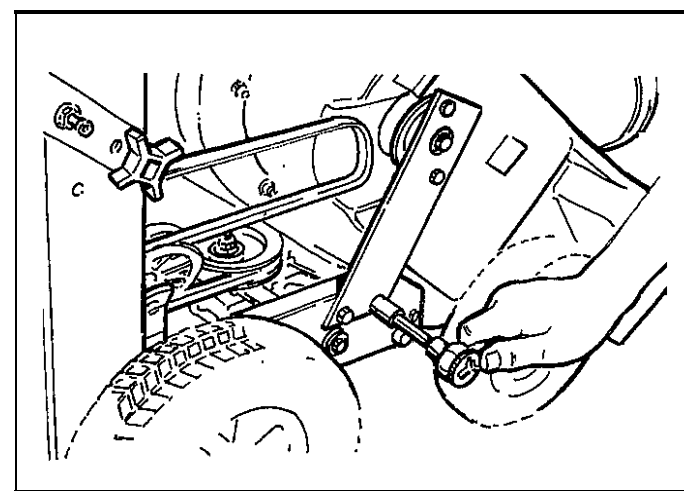

Figure 19. Remove Drive Pulley Bearing Plate Screws
4. Pull on spring loaded idler to lessen belt tension and remove belt from pulley. Using a 1/2" socket wrench, remove the (2) 5/16-16 x 3/4" hex head cap screws and (2) 5/16 lock washers that secure the drive pulley bearing plate to the frame (Figure 19).